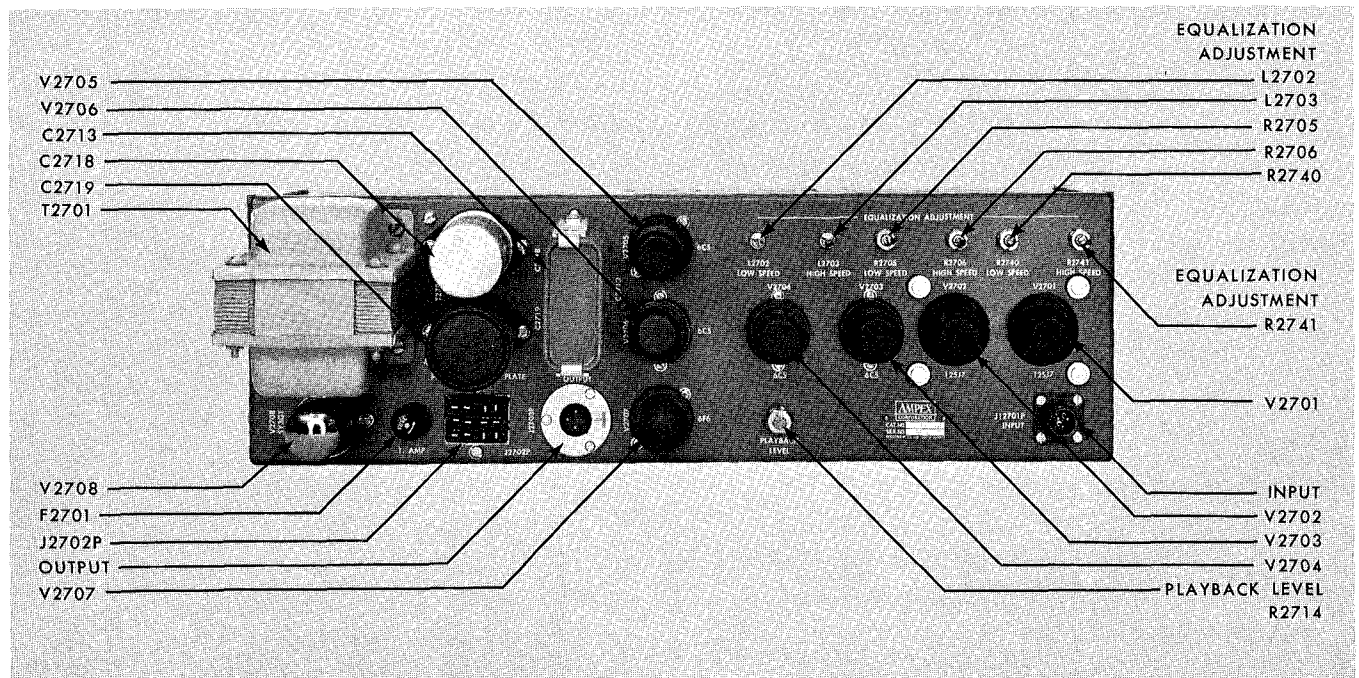

Figure 6-1
Step 6: Check the a-c filament voltage with an a-c voltmeter at the terminal board as indicated in Fig. 6-1. This reading should be 6.3 volts, a-c,  $\pm 0.2$  volt.
Step 7: Check the d-c filament voltage with a d-c voltmeter at the terminal board as indicated in Fig. 6-1. This reading should be 12.5 volts, d-c,  $\pm 1$  volt.